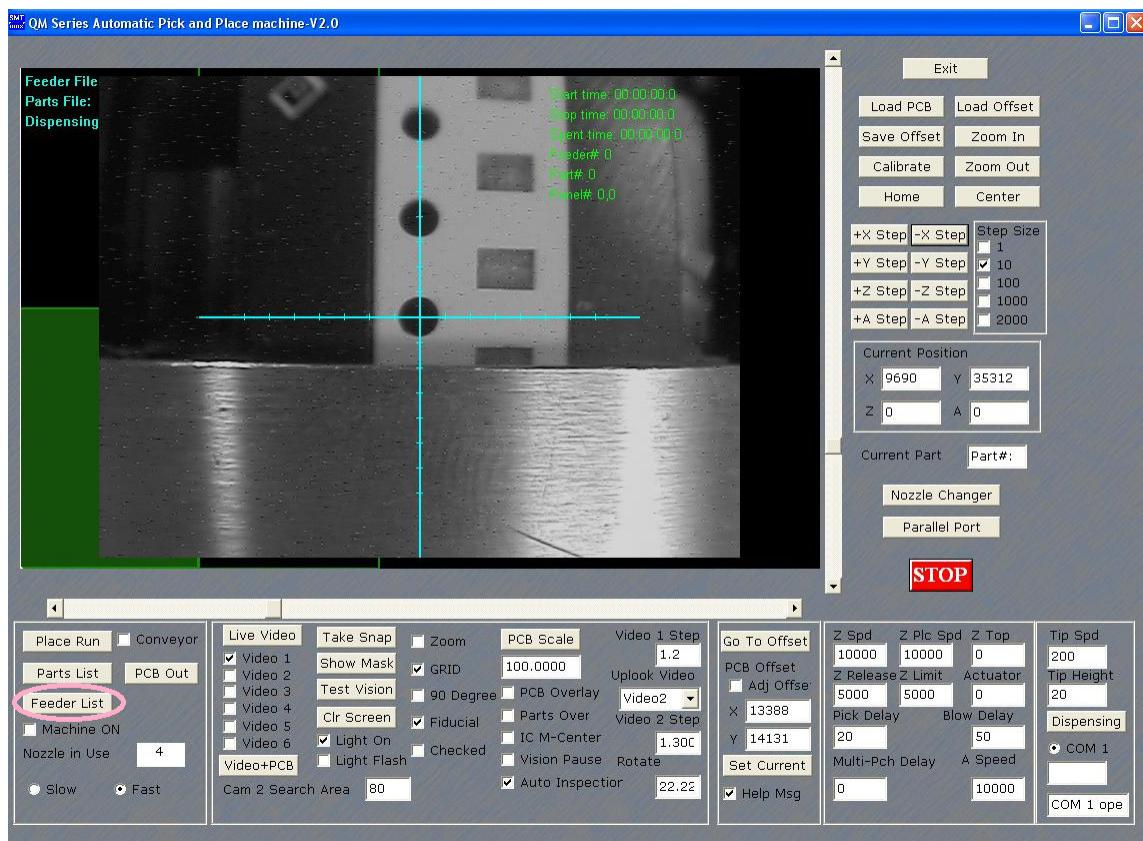

Figure 3.2: Crosshairs of the DOWNLOOKING CAMERA centered on a needle hole of the component reel tape, with FEEDER LIST BUTTON circled
- Now, using the NAVIGATION PANEL of the MAIN WINDOW, move the PICKUP HEAD such that the camera crosshairs become centered on the needle hole, as in Figure 3.2.